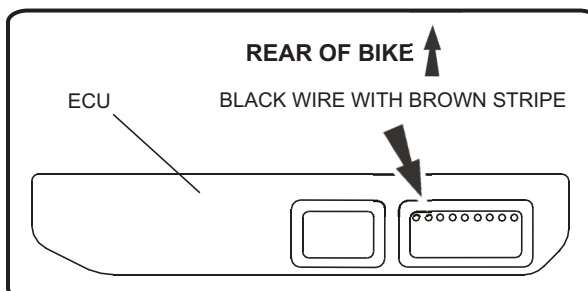

Fig. 7
- 13 Pull out black wire with brown stripe. (See Fig. 7&8)